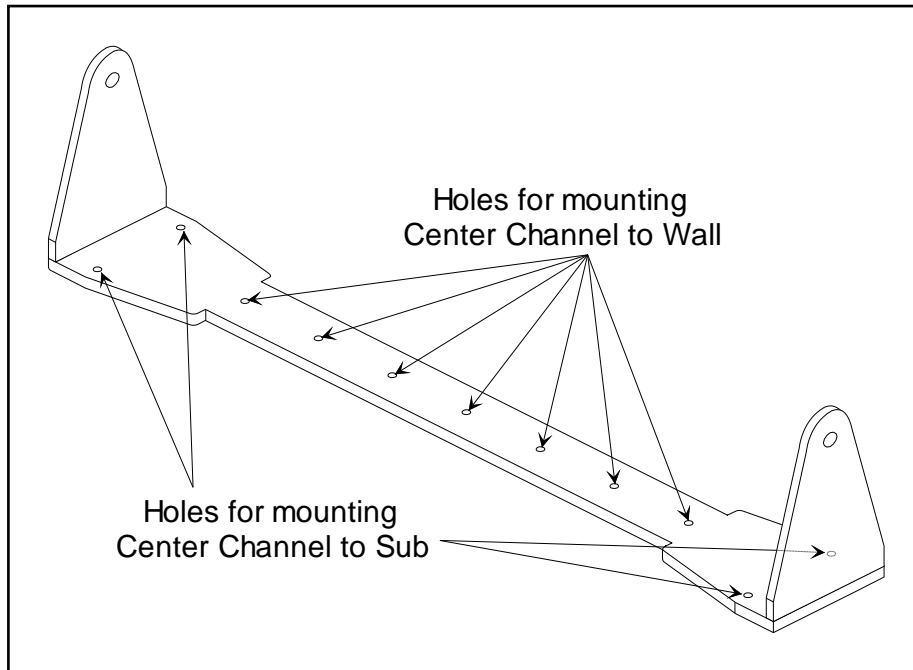

Figure 3.1 – Center Channel mounting holes
2. Locate Center Channel / Mounting Bracket assembly over the four mounting holes as shown in Figure 3.1. DO NOT DISASSEMBLE CENTER CHANNEL FROM BRACKET.